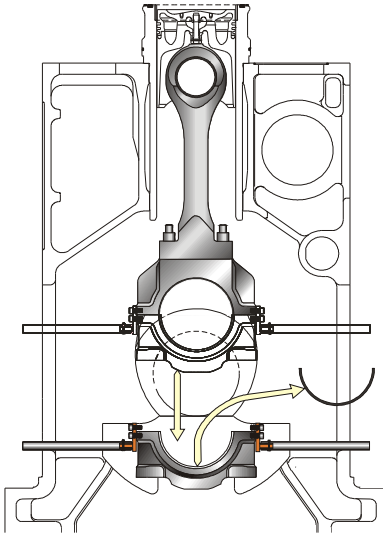

Fig. 3 Extracting of lower bearing
- Slow down big end lower housing as shown in fig. 3.